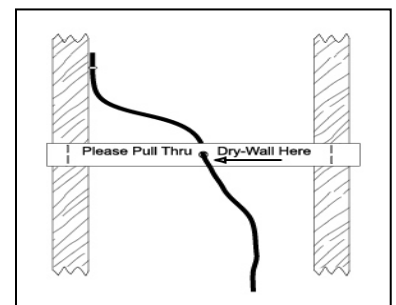

Figure 3
2. When pre-wiring, leave 4 to 6 feet of wire at the speaker’s intended location. Use a strip of cardboard stapled to the joints/studs with a hole through it as a wire place holder for the drywall installers (see **Figure 3**).